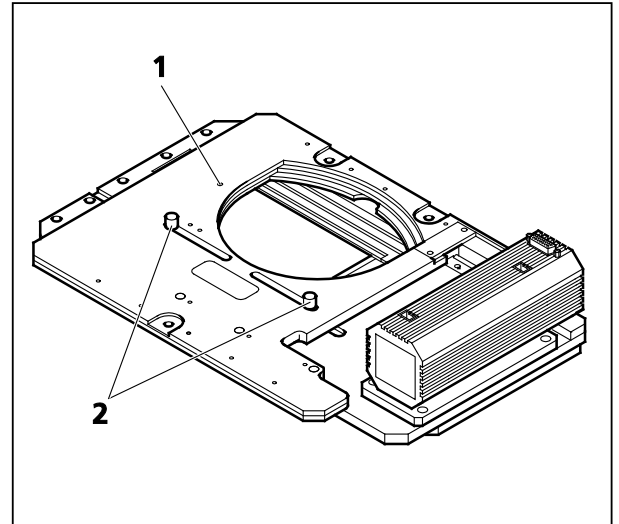

Fig. 3-8 Underside of the Scanning Stage
- After mounting the stage on the stand, screw out the transport lock pin (Fig. 3-8/1) located on the underside of the stage.
- In order to change the right or left stop for the X direction, loosen the relevant stop screw (Fig. 3-8/2) on the underside of the stage, move the screw into the desired position and retighten it.